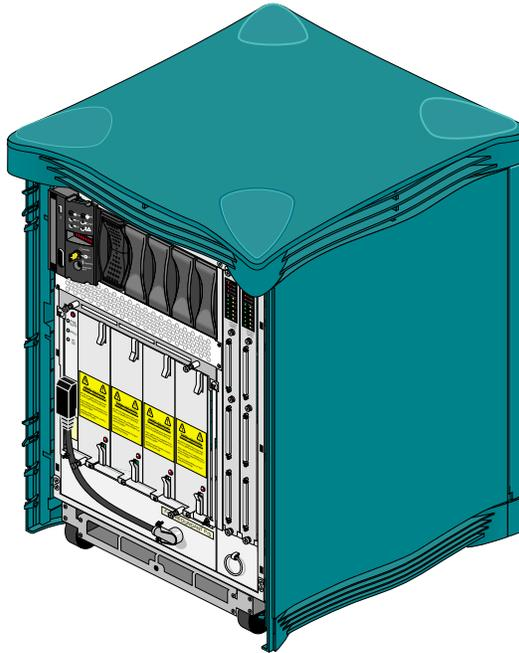

Figure 1-1 Redundant Power Supply in Origin 2000 Deskside, Facade Removed
- Figure 1-1** Redundant Power Supply in Origin 2000 Deskside, Facade Removed 2
The redundant power supply consists of an enclosure containing four power supply modules. Figure 1-1 shows the redundant power supply in an Origin 2000 deskside system.